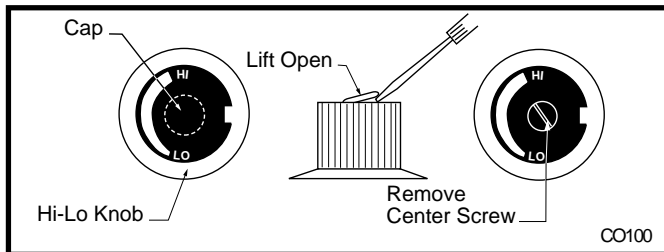

Fig. 54 Remove center screw from Hi-Lo knob.
1. Remove cap from HI/LO knob. This can be accomplished by lifting the plastic cap off the screw. (Fig. 54)
2. Remove the screw from center of HI/LO knob with small screwdriver turning counterclockwise. (Fig. 54)